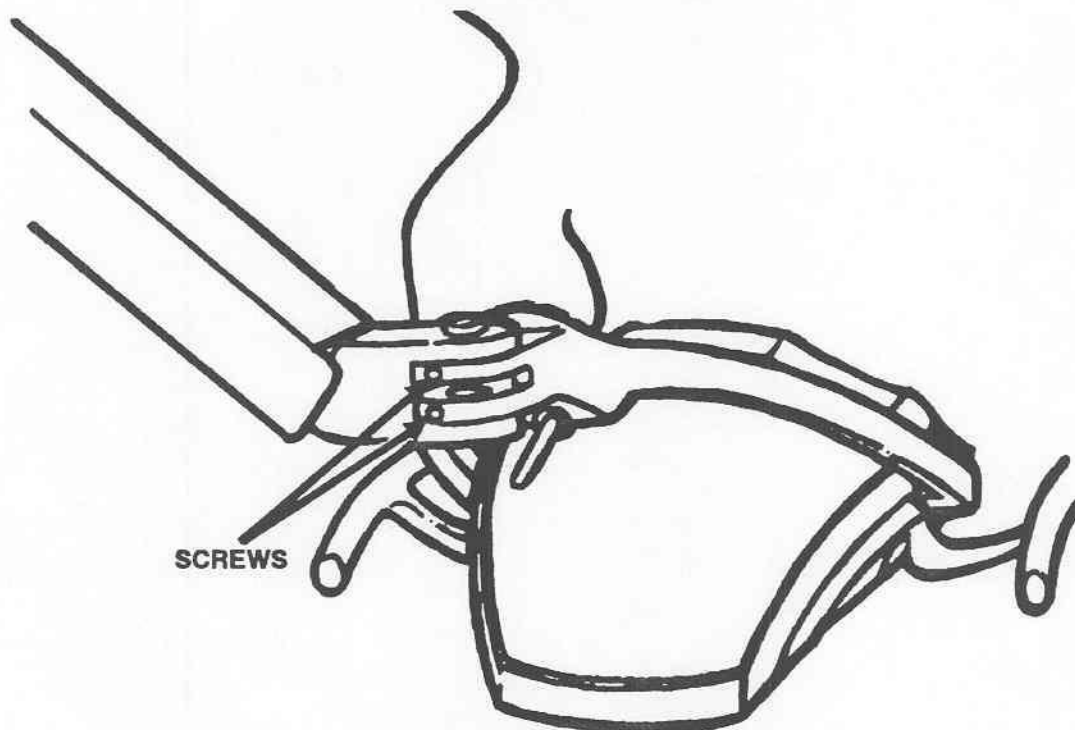

Figure 3-14. Screw removal.
- (8) Loosen the two allen screws by turning them counterclockwise (fig 3-14).